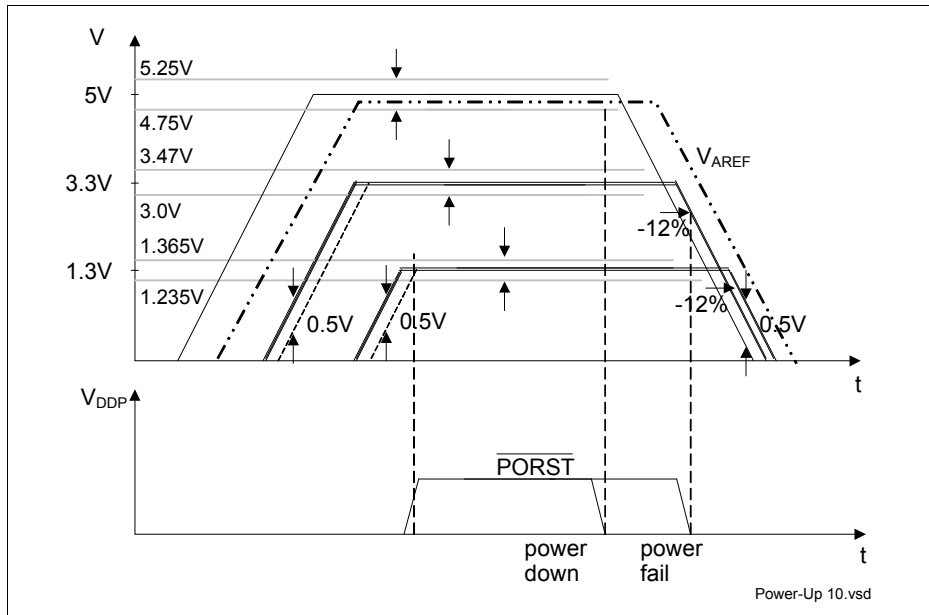

Figure 12 5 V / 3.3 V / 1.3 V Power-Up/Down Sequence
- At any moment in time to avoid increased latch-up risk, each power supply must be higher than any lower_power_supply - 0.5 V, or: $VDD5 > VDD3.3 - 0.5 V$; $VDD5 > VDD1.3 - 0.5 V$; $VDD3.3 > VDD1.3 - 0.5 V$, see **Figure 12**.